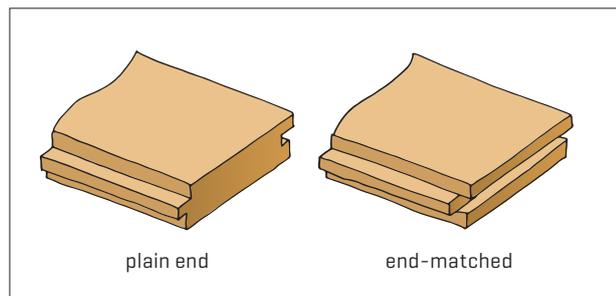

Figure 5. Plain end and end-matched flooring.
**3.3.5** Where the flooring is to be butt joined over joists, ends are cut clean and square [Figures 5 and 6]. Flooring with an end-matched joint [tongue and groove ends] allows boards to be joined between joists.